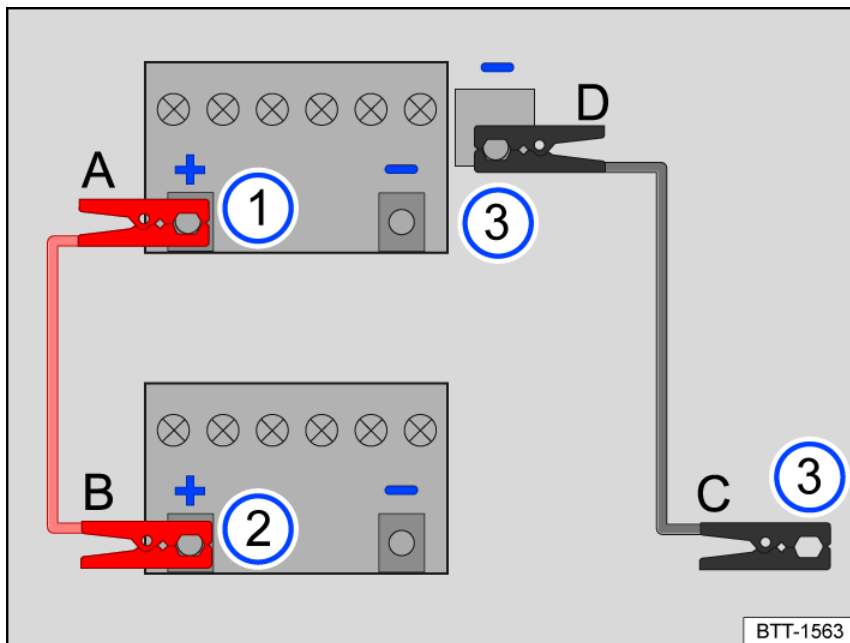

Fig. 143 Diagram for connecting the jumper cables.
Only connect the jumper cables in the sequence **A – B – C – D** *fig. 143*.
- Connect one end of the *red* jumper cable **A** to the positive battery terminal + of the vehicle battery with the discharged 12-volt vehicle battery *fig. 143* ①.
- Connect the other end of the *red* jumper cable **B** to the positive battery terminal + of the vehicle supplying the power *fig. 143* ②.
- Connect one end of the *black* jumper cable **C** preferably to a jump-start point (negative connection), otherwise to a large metal part that is bolted securely to the cylinder block or to the cylinder block itself of the vehicle supplying the power *fig. 143* ③.
- Connect the other end of the *black* jumper cable **D** for the vehicle with the discharged 12-volt vehicle battery preferably to the jump-start point (negative connection), otherwise to a large metal part that is bolted securely to the cylinder block or to the cylinder block itself *fig. 143* ③.
- With the engines running, disconnect the jumper cables only in the sequence **D – C – B – A** *fig. 143*.